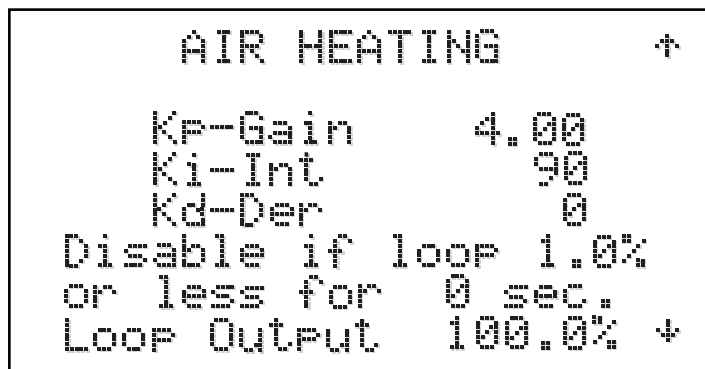

Figure 47
4.3.4.2.3 Air Heating (Figure 47)